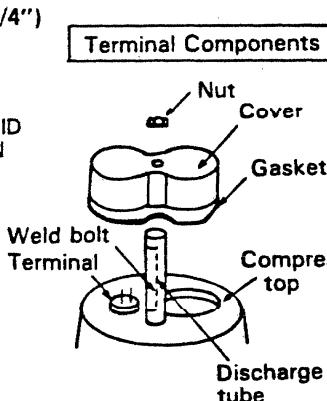

Fig. 27
- 2) Remove the cabinet according to the disassembly procedure of the outdoor unit. Refer to Page 64. Furthermore remove the terminal cover at the top of the compressor and remove the wiring of the compressor terminal. Fig. 27.